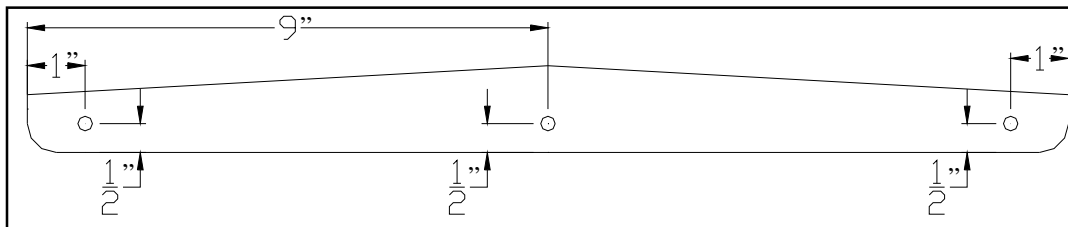

Figure 4: Drill three 1/4" Holes in Rear Tab on Roof
1.4. Drill three 1/4" holes in rear roof tab per Figure 4. (Ref.: 1" from ends, 1/2" up, and 9" to the center hole).